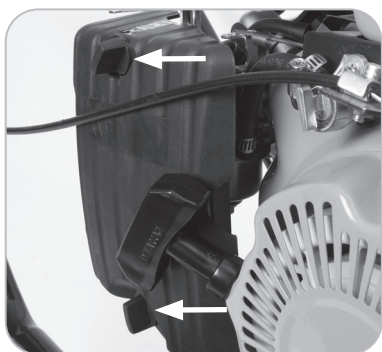

Fig. 16
- Unscrew the wing nuts from the Air Filter housing cover and remove it. **(Fig. 16)**